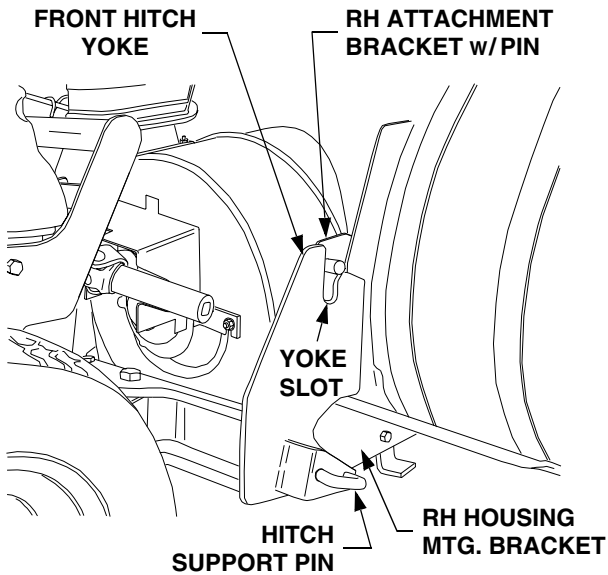

Figure 9
5. Start the tractor and align the front hitch yoke with the attachment brackets on each side of the rear blower housing (Refer to Figure 9).
6. Lower the front hitch yoke to clear the bottom of the attachment bracket pins and carefully drive the tractor forward to align the bracket pins with the slots in the hitch yoke (See Figure 9).
7. Using the tractor hydraulic system to raise the front hitch yoke, slowly lift the snow thrower until the hitch support pins snap into the holes of the LH and RH housing mntg. brackets (See Figure 9).
8. Stop the tractor engine and engage the parking brake. Check that support pins are fully engaged in the housing mntg. brackets holes (See Figure 9).
4. Using the tractor hydraulic system, lower the front hitch yoke to disengage the snow thrower attachment bracket pins from the slots of the hitch yoke (Refer to Figure 9).